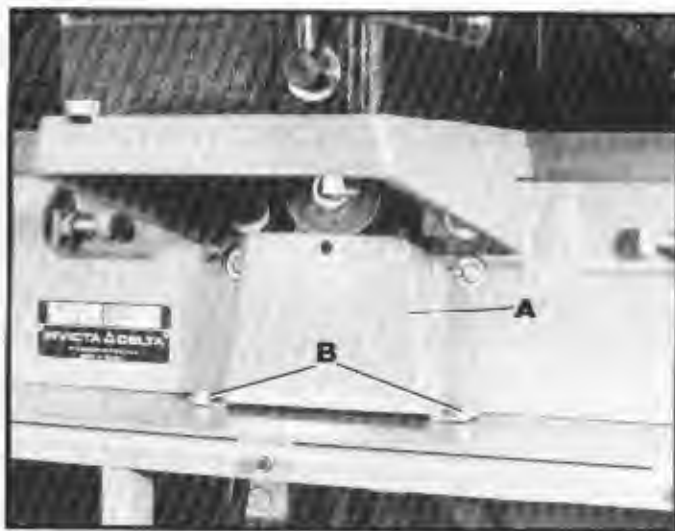

Fig. 12
To assemble the cutterhead belt and pulley guard (A) Fig. 12, position the guard on the jointer stand and hold in place using the two 5/8" long screws (B), washers and hex nuts supplied.